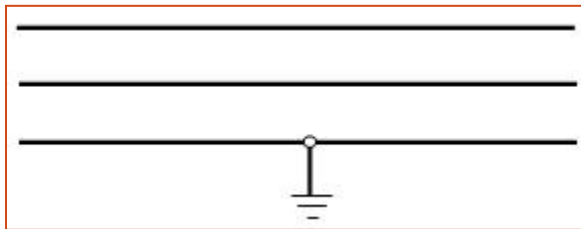

Fig 2.0: Phase-to-Phase unbalanced Fault Condition
- Phase-to-Phase Fault: In this type of fault, two of the three phases become short-circuited, leading to an unbalanced fault condition within the system. The diagram in Figure 2.0 below illustrates this fault condition.